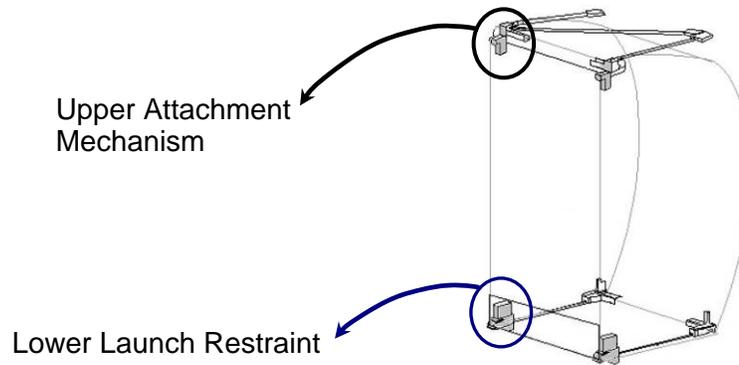

Figure 5.- Location of Rack Launch Restraint Hardware.
- 2.1 Adjust Center Knee Brace Strut 1 to 2 turns ↻, until loose. Refer to Figures 5 and 6.